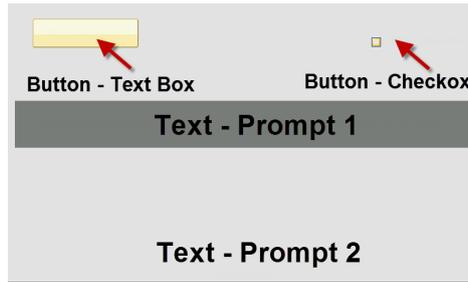

Figure 100 Window1
A. Figure 100 shows Window1. In this window are four elements: